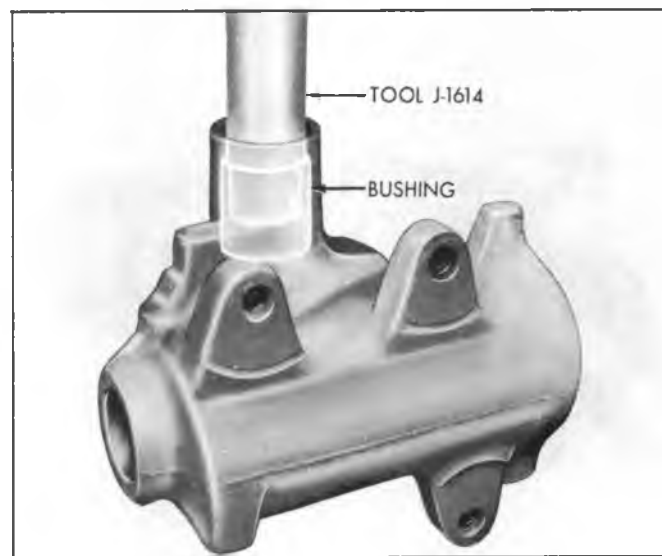

Fig. 8—Removing Pitman Shaft Bushing—Typical
1. Support the steering gear housing in an arbor press and press the pitman shaft bushing (2 bushings on Corvette and G10-30 Series Trucks) from the housing using Tool J-1614, inserted from the lower end of the housing (fig. 8).